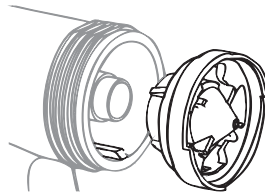

FIGURE 9.9
- Unscrew the union nut, remove the paint regulator and the spraying nozzle. Clean the paint regulator and the spraying nozzle with a brush with solvent or water (see Figure 9.9);